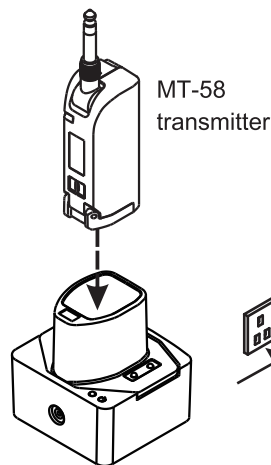

Fig. 36
- (B) Plug-in both ends as shown in Fig. 36.